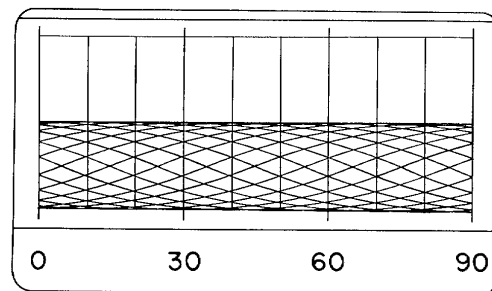

Figure 2-7. MONITOR display pattern, FT-TACH-MT switch in TACH position.
(32) Set the MONITOR FT-TACH-MT switch (fig. 2-3) to TACH and the RADAR control NAV DATA switch (fig. 2-1) to MAN. Observe the MONITOR cathode-ray tube display pattern to see that the film-drive motor is operating. The display pattern should consist of a constantly moving series of interwoven waves (fig. 2-7). The illustration shows that display pattern as it would appear if it were stationary. With the RECORDER control RANGE switch (fig. 2-2) at 25 and the RADAR control KNOTS GRD SPEED knob (fig. 2-1) at 300, the display pattern has the amplitude shown in figure 2-7. The amplitude of the display pattern decreases as the RECORDER control RANGE switch (fig. 2-2) is turned to 50 and then to 90.